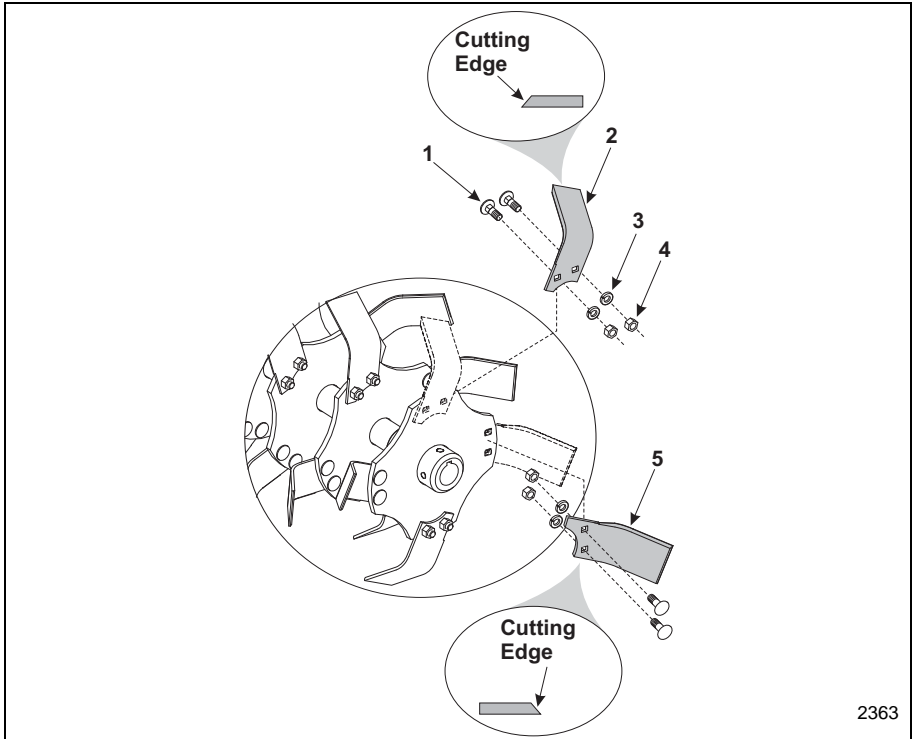
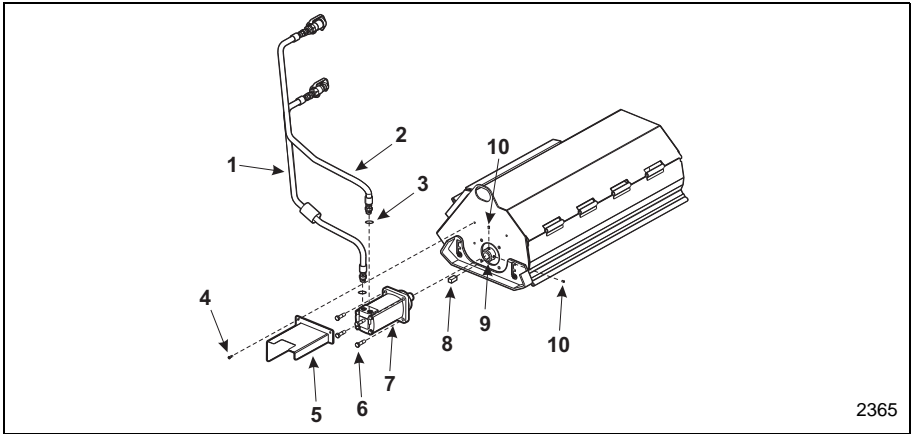

Figure 16 Tine Replacement
Figure 17 Hydraulic Drive Motor Replacement
3. Remove the two nuts (Item 4, **Figure 16**), lock washers (Item 3, **Figure 16**) and carriage bolts (Item 1, **Figure 16**) securing the tiller tine to the tiller shaft.
4. Remove the old tine (Items.2 and 5, **Figure 16**)
3. Mark the hydraulic hoses (Items 1 and 2, **Figure 17**) to make sure that the correct hose is reinstalled on the proper port on the new hydraulic motor.
5. Remove the protective motor shield (Item 5, **Figure 17**) by removing the three mounting bolts (Item 3, **Figure 16**).
6. Remove the four mounting bolts (Item 6, **Figure 17**) and nuts securing the hydraulic drive motor (Item 7, **Figure 16**) to the tiller body.
7. Loosen the two set screws (Item 10, **Figure 17**) holding the drive motor to the tiller shaft.
8. Remove the hydraulic drive motor and drive shaft woodruff key (Item 8, **Figure 17**).
9. Install the woodruff key (Item 8, **Figure 17**) onto the new hydraulic motor's drive shaft and install the hydraulic drive motor onto the tiller shaft (Item 9, **Figure 16**).
10. Secure the hydraulic drive motor (Item 7, **Figure 17**) to the tiller body with the four mounting bolts (Item 6, **Figure 16**) and nuts.
11. Tighten the two set screws (Item 10, **Figure 17**) to secure the hydraulic motor to the tiller shaft.
12. Install the hydraulic motor shield (Item 5, **Figure 17**) with the three mounting bolts (Item 3, **Figure 17**).
13. Inspect the O-ring (Item 3, **Figure 17**) on each of the hydraulic hoses for signs of wear or damage. Replace as needed.
14. Install the hydraulic lines (Items 1 and 2, **Figure 17**) to the proper ports as marked when the hydraulic lines were removed from the old drive motor.